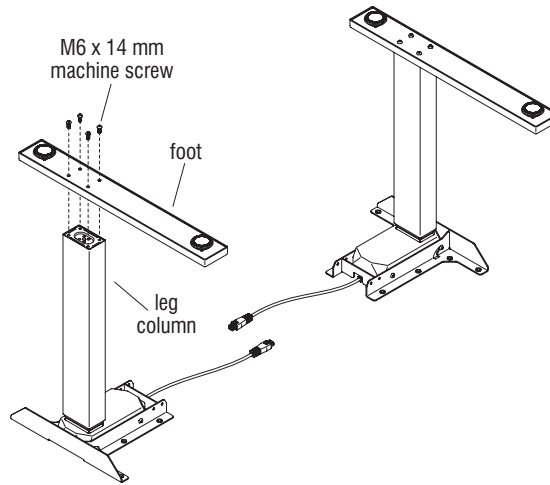

Figure 3
- One foot at a time, position a foot over the mounting location on the leg column and secure using four M6 x 14 mm machine screws. Repeat this step to install the second foot on the second leg column (Figure 3).